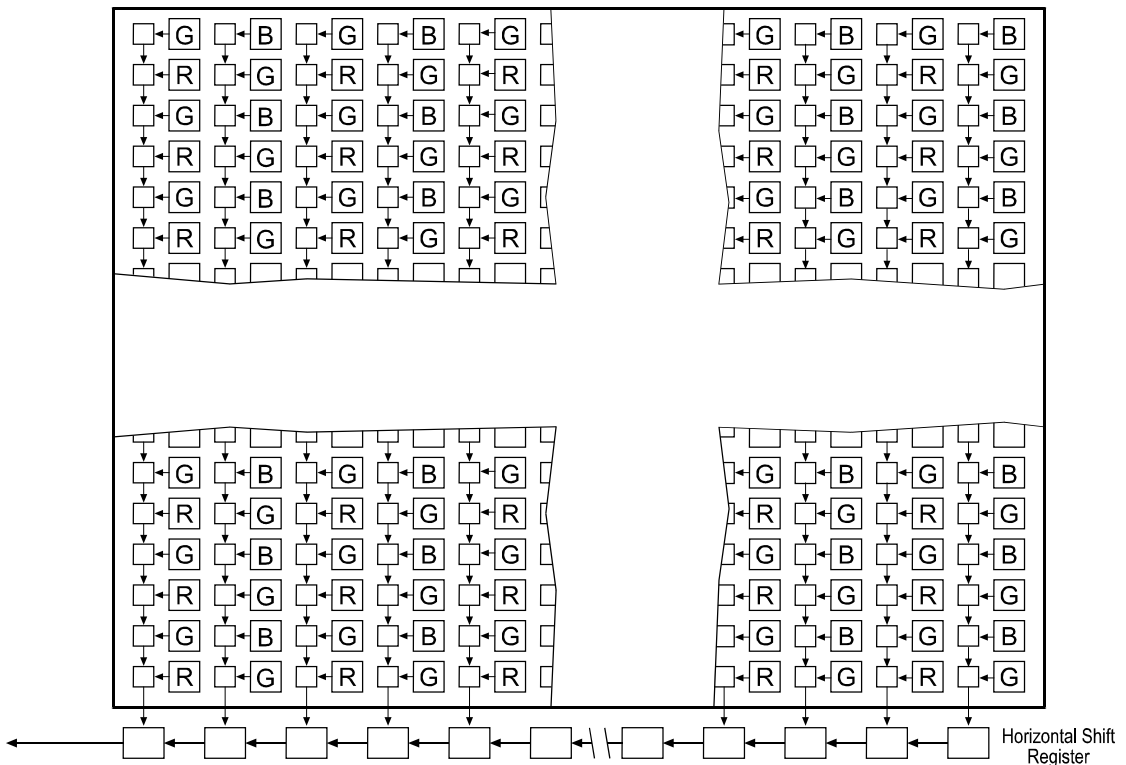

Figure 5-14: Bayer Filter Pattern on the eXcite’s Sensor
The CMOS and CCD sensors used in color models of the eXcite are equipped with an additive color separation filter known as a Bayer filter. With the Bayer filter, each individual pixel is covered by a micro-lens that allows light of only one color to strike the pixel. As Figure 5-14 illustrates, within each block of four pixels, one pixel sees only red light (R), one sees only blue light (B), and two pixels see only green light (G). (This combination mimics the human eye’s sensitivity to color.)
The alignment of the Bayer filter used in the CMOS camera models of the eXcite is shown in Figure 5-14 where the first row starts with the sequence G, B, etc. Accordingly, the second row starts with the sequence R, G, etc. In the CCD camera models the first row starts with the sequence R, G, etc. Accordingly, the second row starts with the sequence G, B, etc.